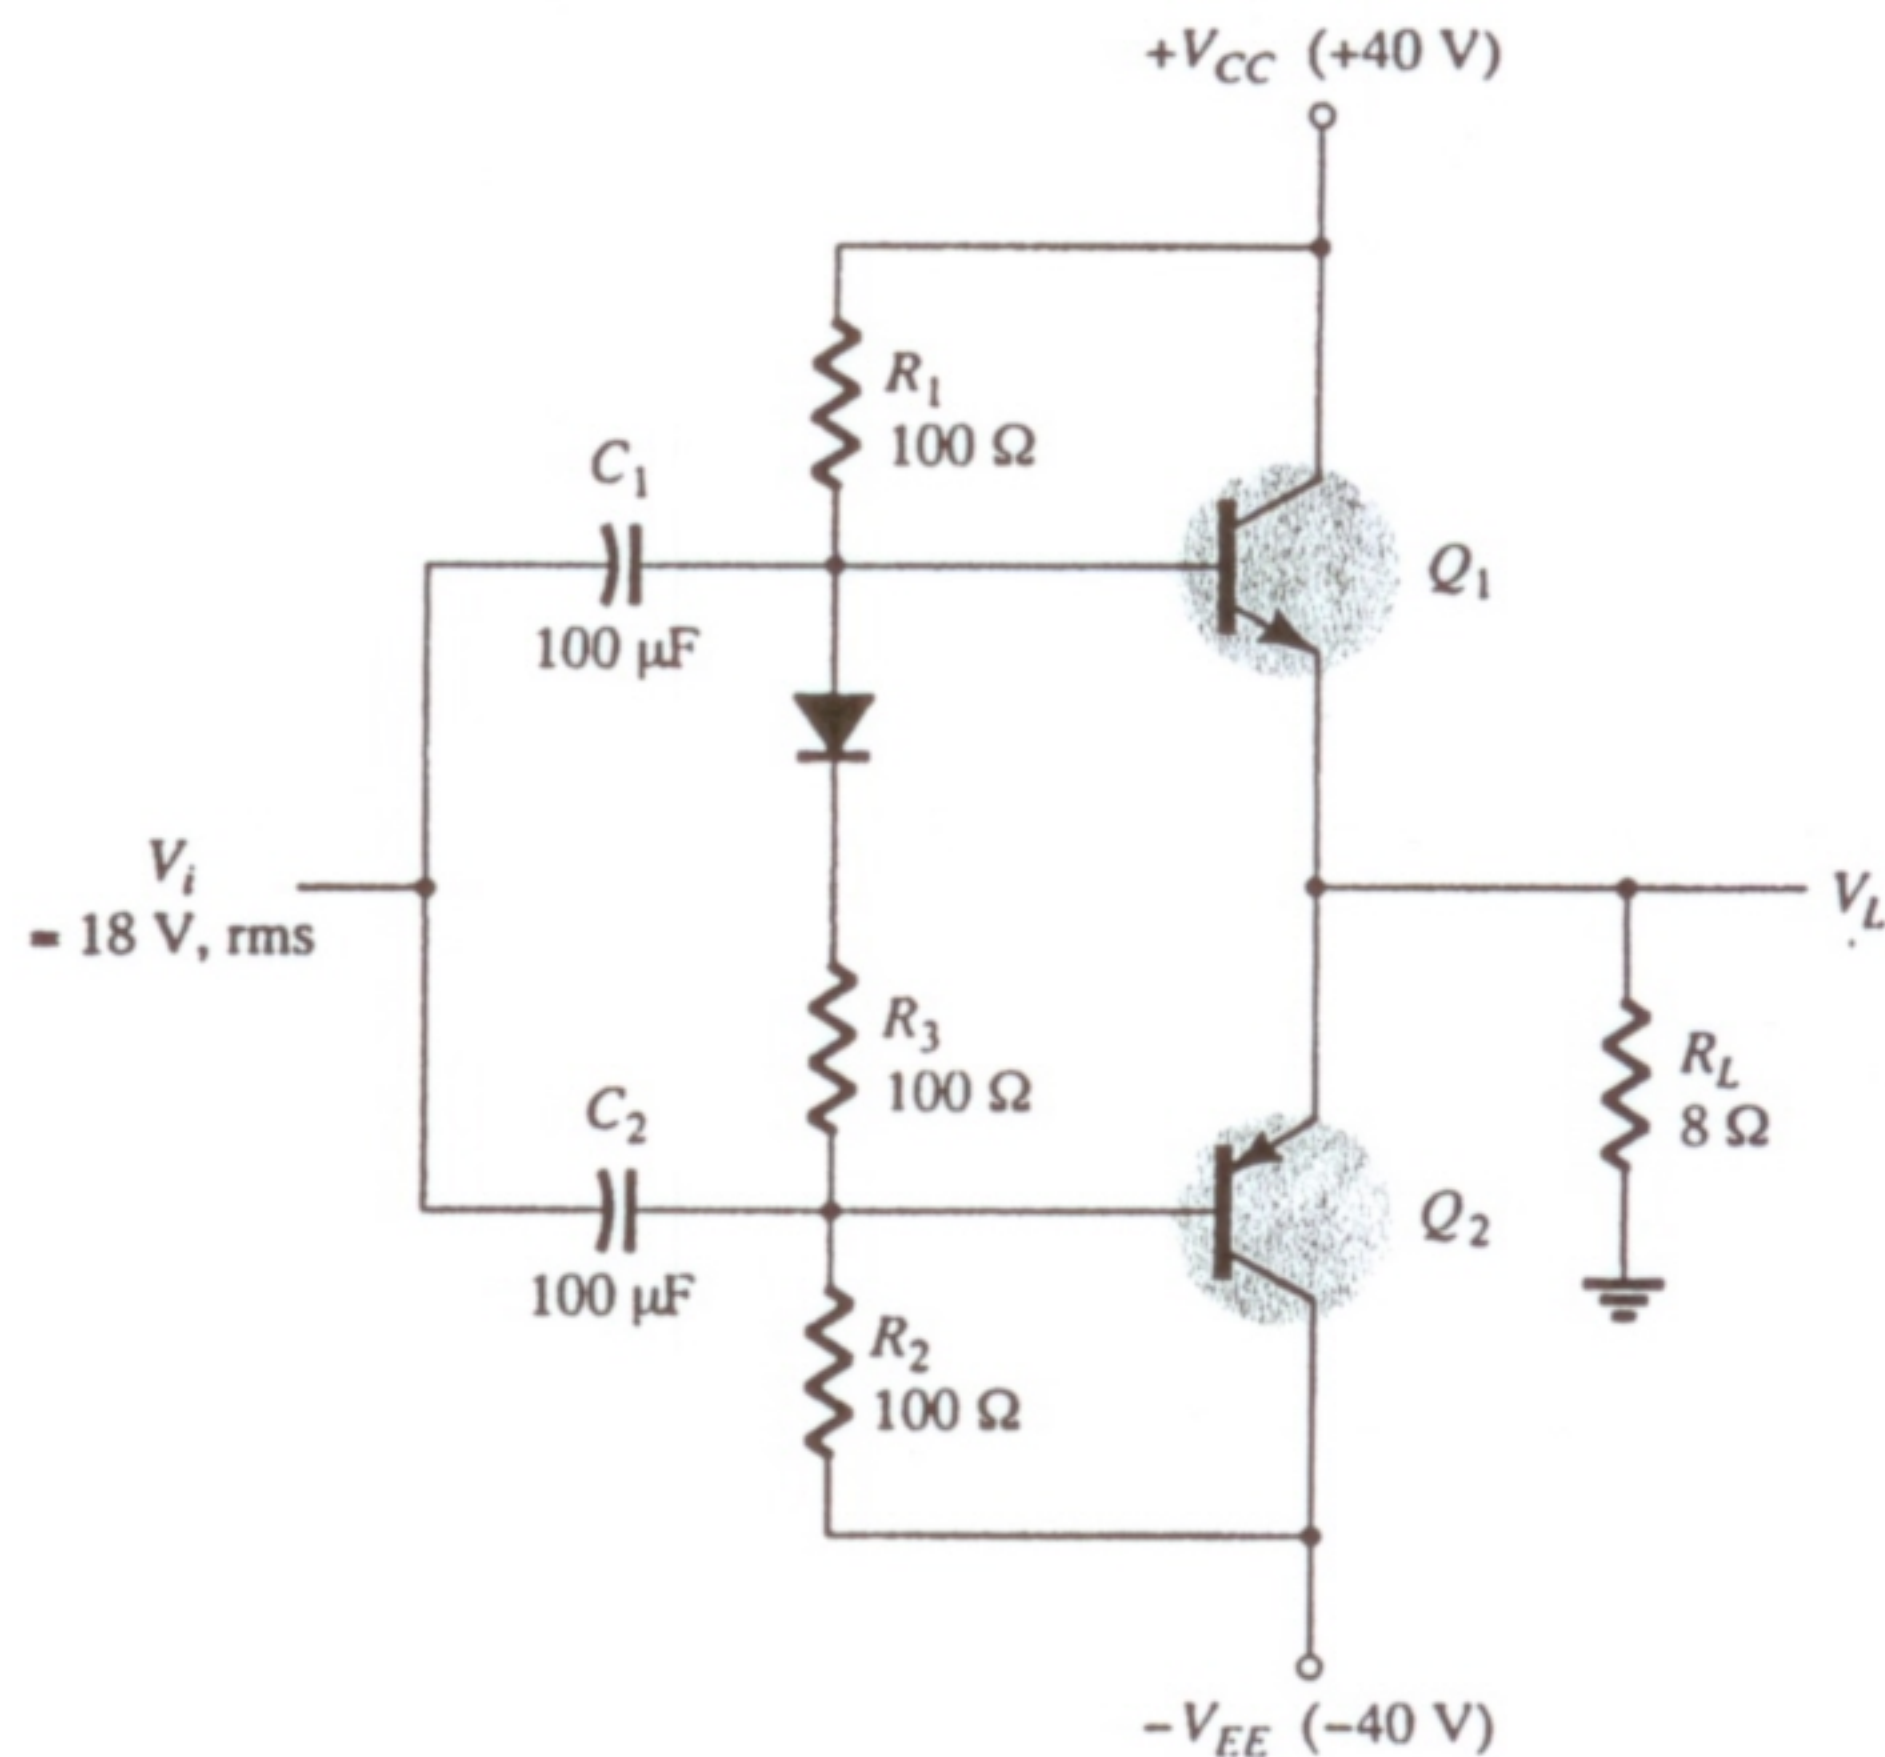

FIG. 12.37
- *18. For the power amplifier of Fig. 12.37, calculate: